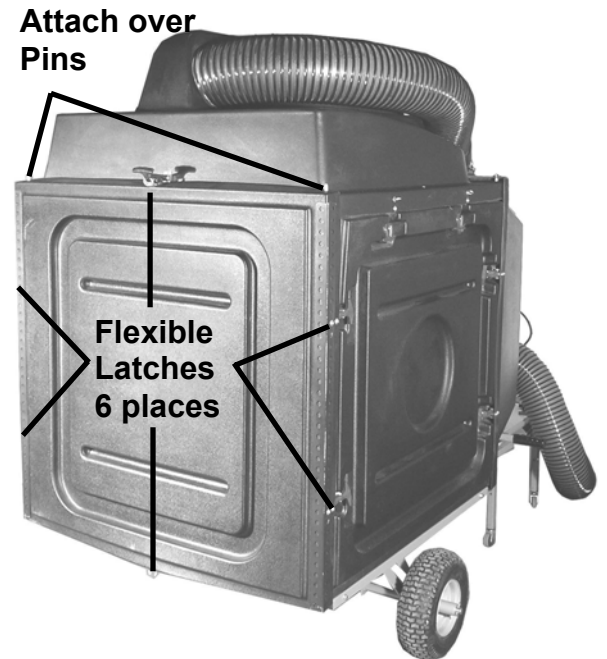

Figure 13
6. Lower the bed until it is locked in place with the Dump Lever (*Figure 8* on page 14). Attach the rear panel on the protruding pins and secure in place with the six (6) flexible latches (*Figure 13*).